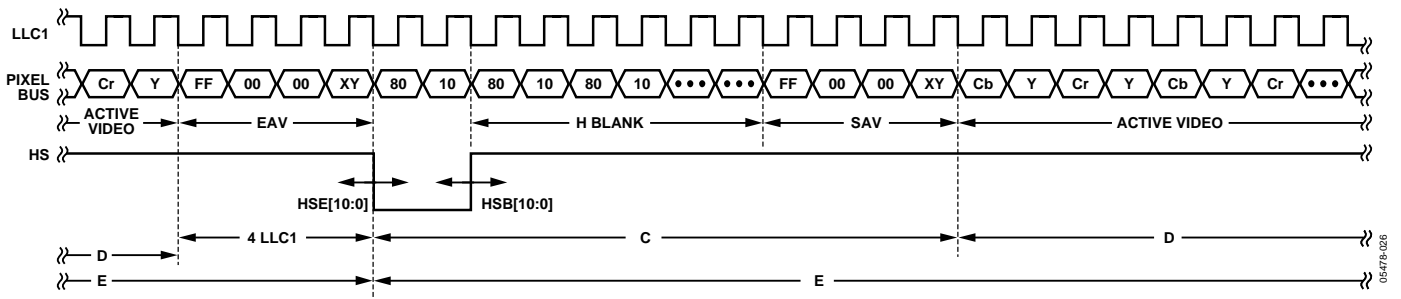

Figure 26. HS Timing
The position of this edge is controlled by placing a binary number into HSB[10:0]. The number applied offsets the edge with respect to an internal counter that is reset to 0 immediately after EAV code FF, 00, 00, XY (see Figure 26). HSB[10:0] is set to 0000000010, which is 2 LLC1 clock cycles from count[0].
**Table 61. HS Timing Parameters (see Figure 26)**
after EAV code FF, 00, 00, XY (see Figure 26). HSE is set to 0000000000, which is 0 LLC1 clock cycles from count[0].